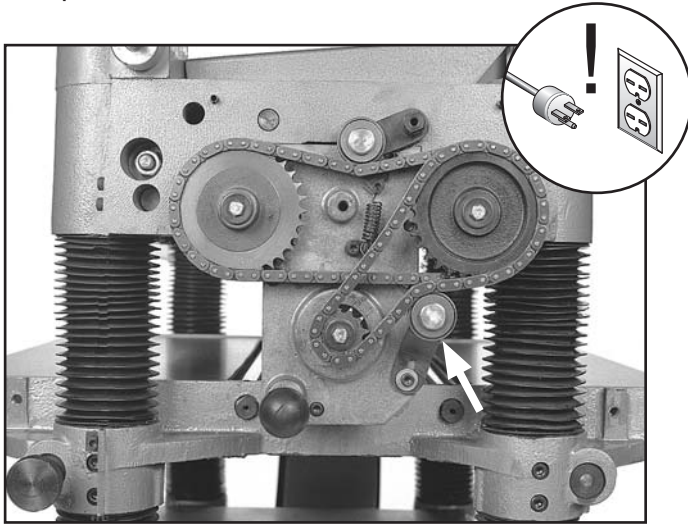

Figure 34. Static chain tensioner.
5. Rotate the static chain tensioner (see **Figure 34**) into its respective chain until that chain is tight, then lock the static chain tensioner in place.